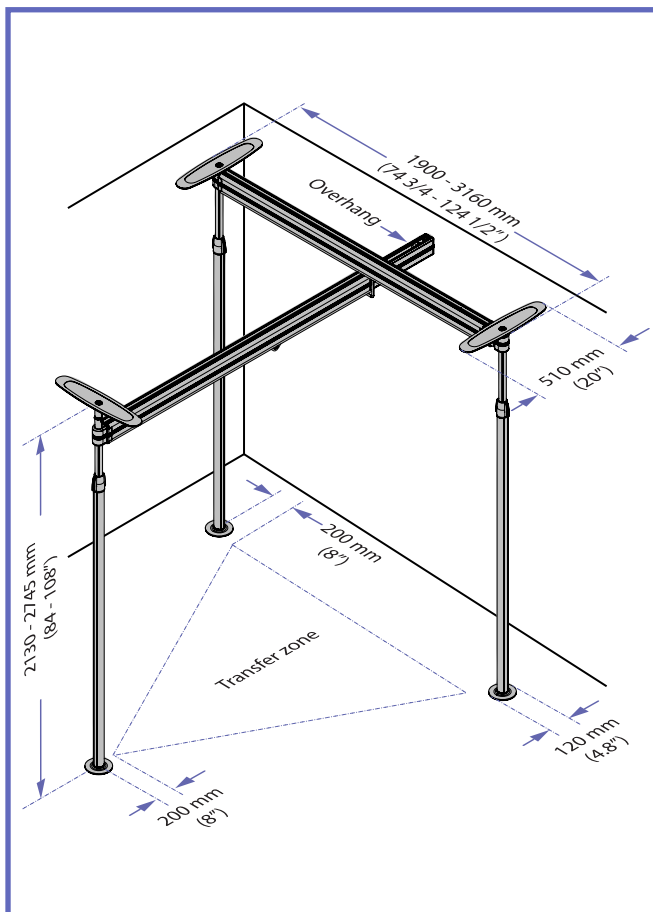

Fig. 6
- 3) Determine the location for the three posts considering the following, see Fig. 6: